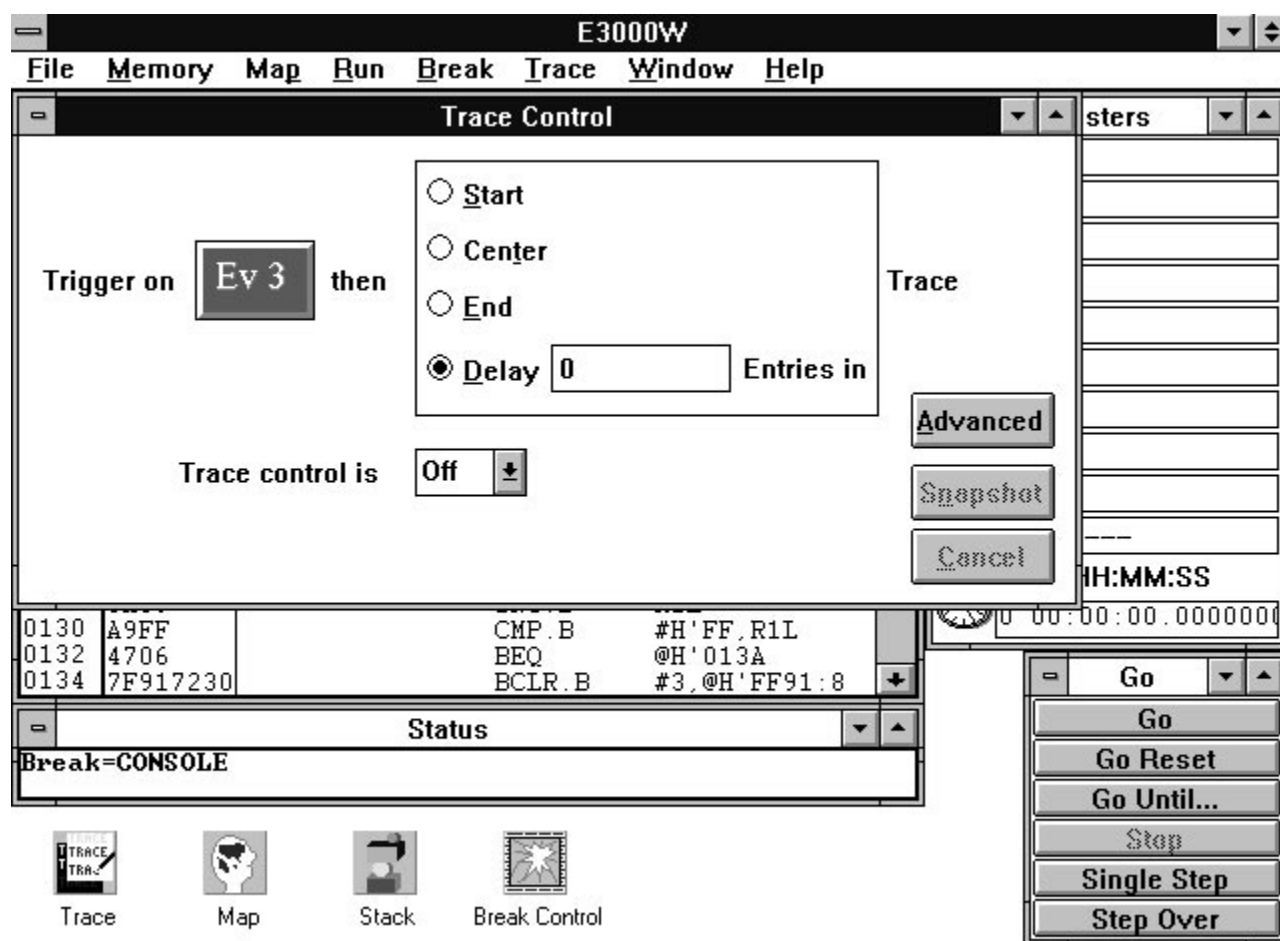

Figure 17.
*Trace Control* window is displayed (see Figure 17).